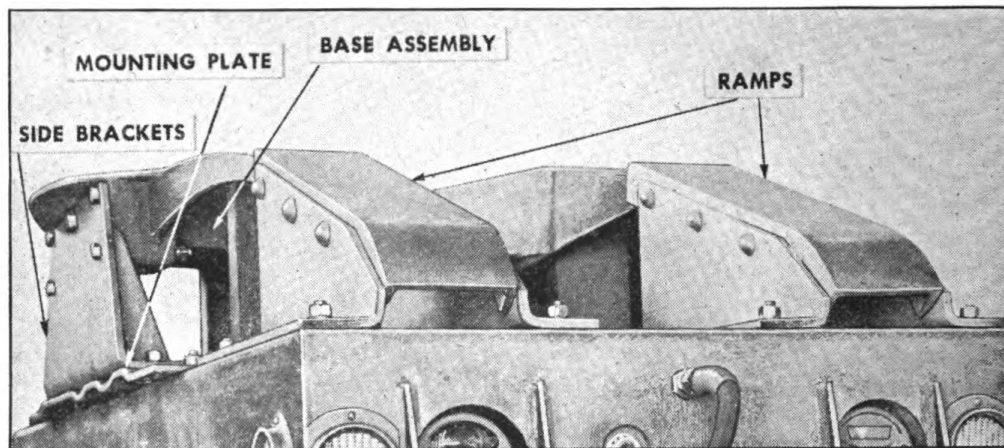

FIGURE 48. COUPLER REMOVAL—DOLLY.
2. **REMOVAL** (Fig. 48).—Remove the bolts holding base and side brackets to mounting plate. Lift the coupler assembly off converter gear.